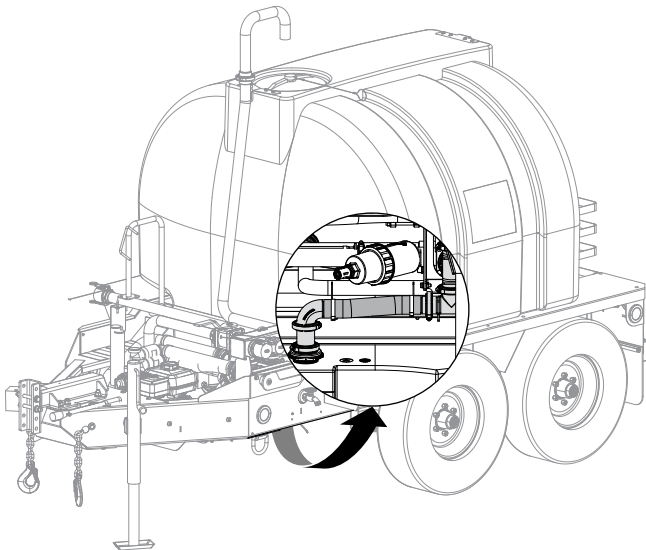

Figure 3. Locate Hose Assembly
1. Locate the existing hose assembly (Figure 3) located underneath the trailer, near the front of the water tank.